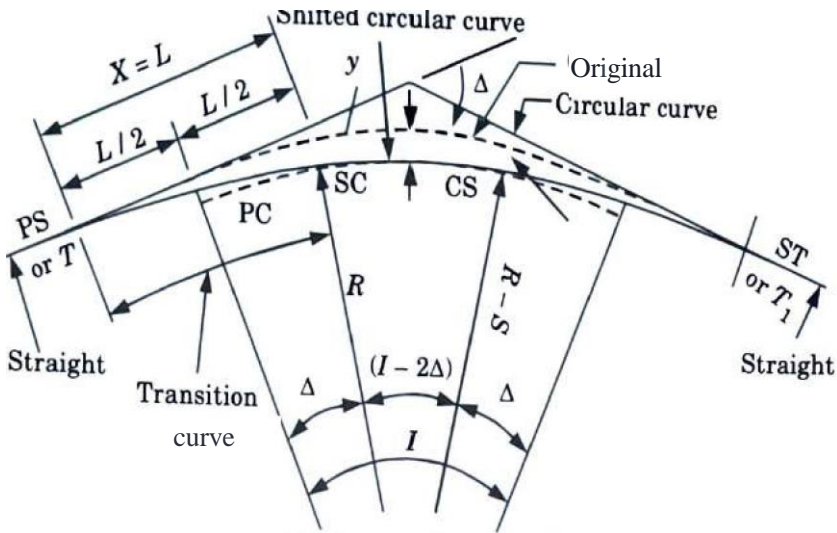

Fig. 2.16.1. Layout of transition curve.
2. This length is inserted at the junction half in the straight and half in the curve (as shown in Fig. 2.16.1).